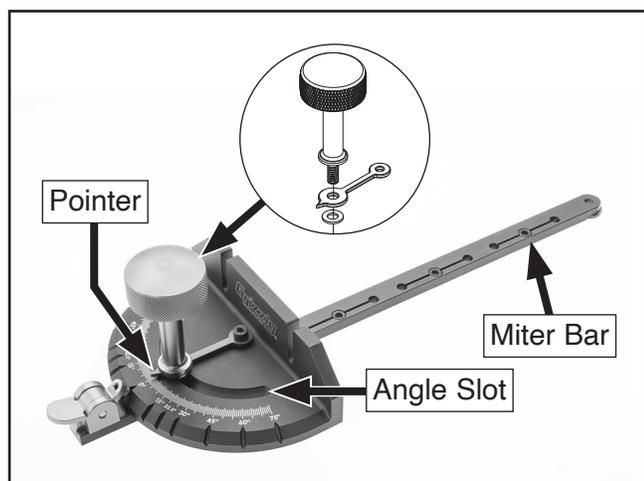

Figure 2. Knob bolt threaded into miter bar.
1. Place 8mm flat washer under pointer hole (see **Figure 2**).
2. Insert knob bolt through pointer hole, flat washer hole, and angle slot, then thread knob bolt into miter bar, as shown in **Figure 2**.